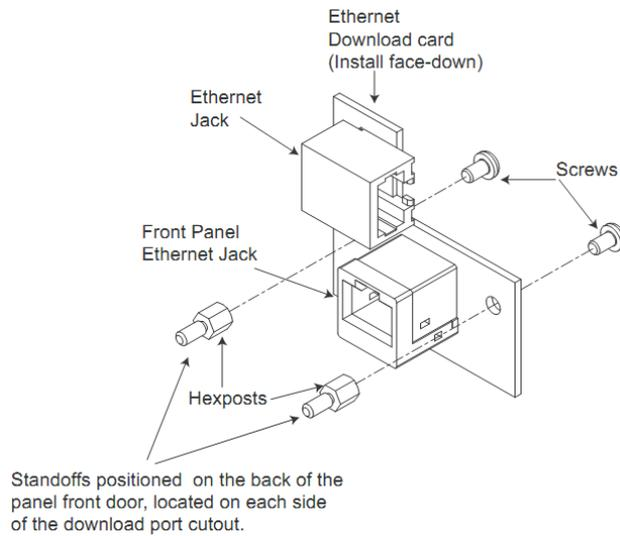

Figure 2 – Fitting hex posts and Ethernet download connector
5. Install the new Ethernet download connector as shown in Figure 2.